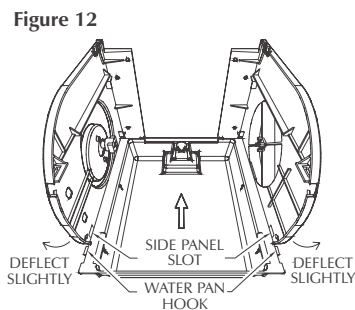
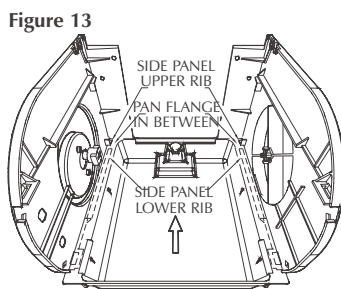
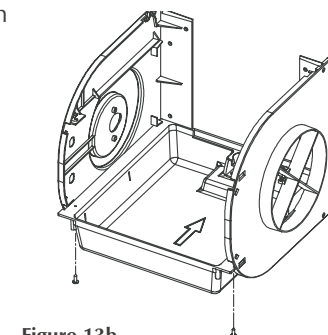

Figure 12
Figure 13
Figure 13b
12. Before the water pan is fully installed you will have to slightly deflect the front of both side panels (one at a time) to insert the hooks on the front of the water pan into slots on the front of the side panels. (Fig. 12) As you are doing this be sure that the rear of the water pan flange is sliding under the upper ribs at the rear of the side panels. (Fig. 13) Once the water pan is in the proper position, secure the water pan in place using the two #6 screws provided in the hardware pack (fig. 13b)